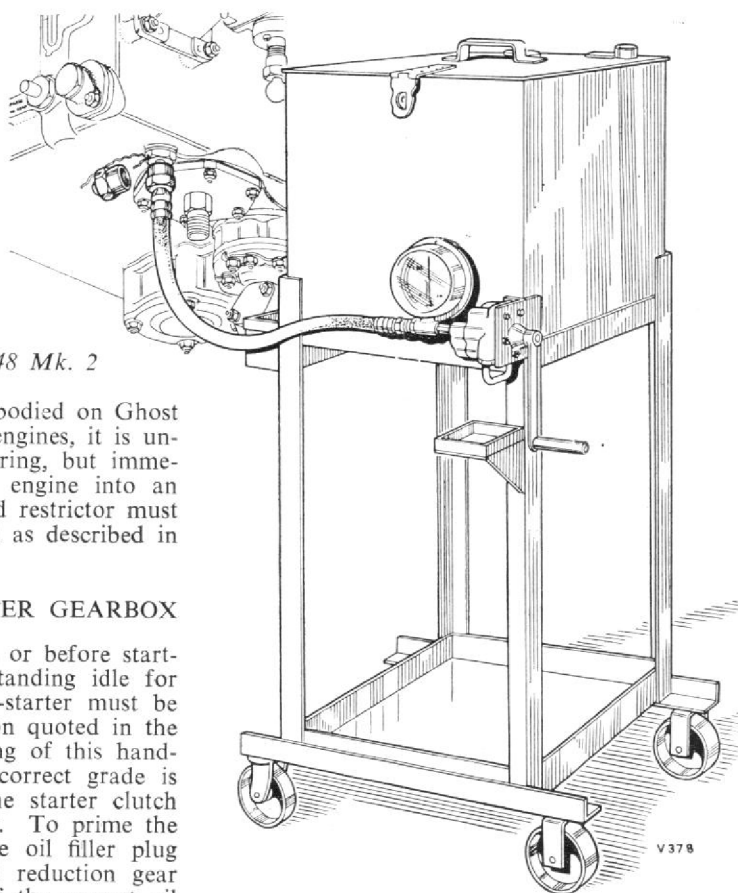

Fig. 4. Using oil pressure test trolley T.78458 to prime the wheelcases with oil, Ghost 48 Mk. 1.
- (1) Cut the locking wire and remove the $\frac{1}{4}$ in. B.S.P. union nut and blanking nipple from the non-return valve (mod. 1082), which is situated at the bottom of the sump between the oil pressure filter cover and the oil pressure relief valve. If mod. 1082 has not been embodied, it will be necessary to remove the $\frac{1}{8}$ in. B.S.P. plug and temporarily fit a suitable union adapter in its place.
- (2) Connect a suitable source of filtered oil under pressure to the non-return valve. Oil pressure test trolley T.78458, illustrated in Fig. 4, would be suitable.
- (3) Prime the engine with clean filtered oil to the specification given in the Leading Particulars at the beginning of this Volume. Maintain a